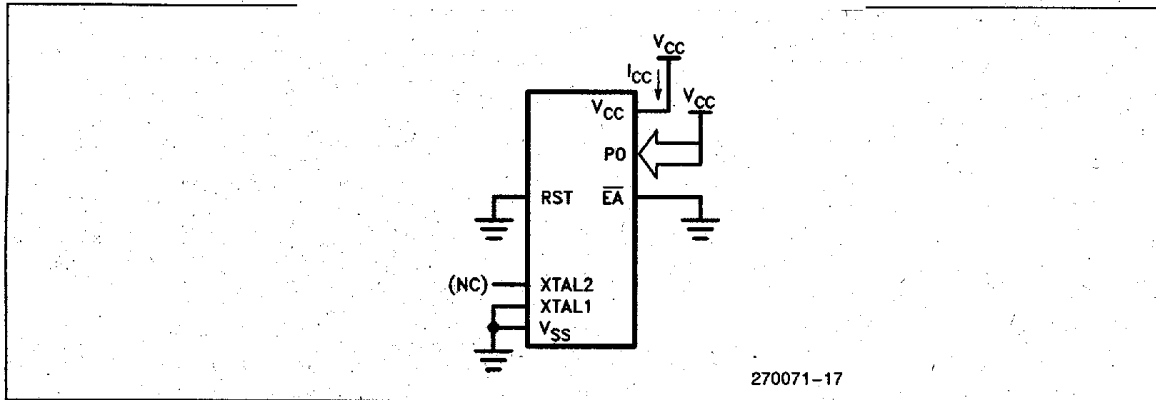

Figure 8.  $I_{CC}$  Test Condition, Power Down Mode. All other pins are disconnected.
5. Power Down  $I_{CC}$  is measured with all output pins disconnected; XTAL1 =  $V_{SS}$ ; XTAL2 N.C.; Port 0 =  $V_{CC}$ ;  $\overline{EA} = RST = V_{SS}$  (see Figure 8).